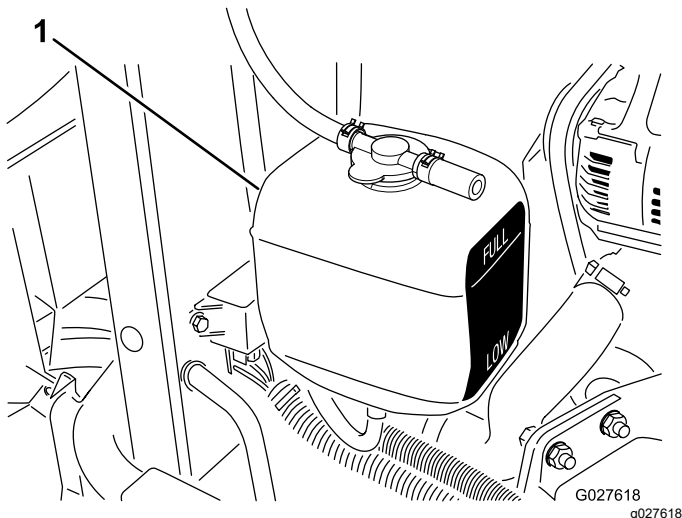

Figure 80
3. Check the coolant level in the expansion tank (Figure 80).